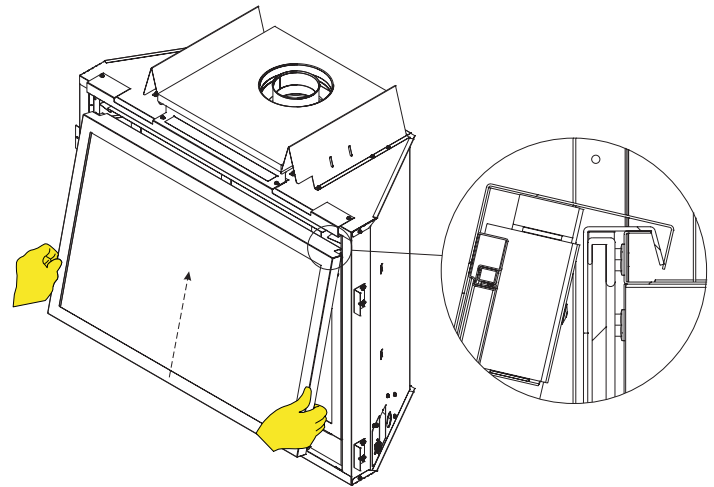

Figure 93
3. Angle barrier screen frame so the barrier screen bracket rests over the glass frame. **See Figure 93.**